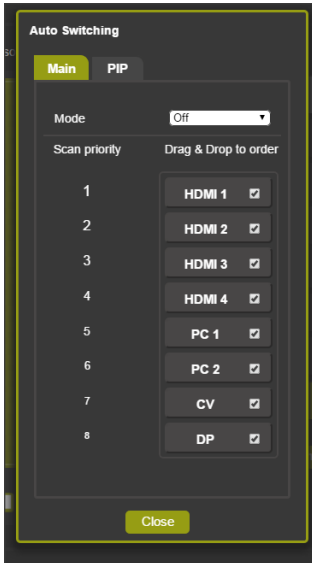

Figure 44: The Routing & Scaling Page – Auto Switching Window (Main Tab)
Click the Auto Switching button to open the Auto Switching window (see Figure 44). The Auto Switching window lets you set the Main and PiP scanning mode separately to:
When Scan mode is activated, the system scans the inputs from the highest to the lowest priority in search of a valid input signal for each the Main and PIP windows. The priority is ordered from the lowest input number (8) to the highest (1). For example, if PC 1 and HDMI 2 have a valid signal and auto switching is enabled, the **VP-773A** will scan through the inputs and select the HDMI 2 which is higher in the priority list (see Figure 44). Once the signal is no longer valid on HDMI 2, the **VP-773A** will scan for the next highest-priority valid signal.